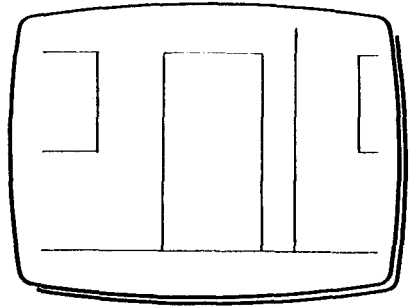

Fig 2
- 3 Select ZOOM to magnify a chosen detail, the door for instance (Fig 2).